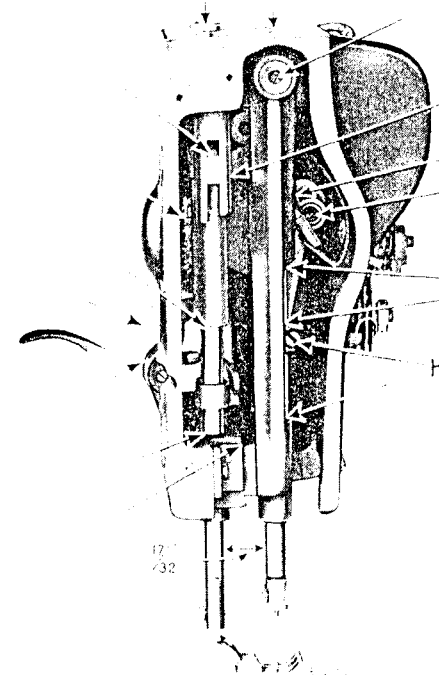

Fig. 5. End View of Machine, Showing Oiling Points
In case the needle bar is not correctly set, loosen the needle bar connecting stud pinch screw (H, Fig. 5) and place the needle bar in the correct position as directed above, then retighten the screw (H).